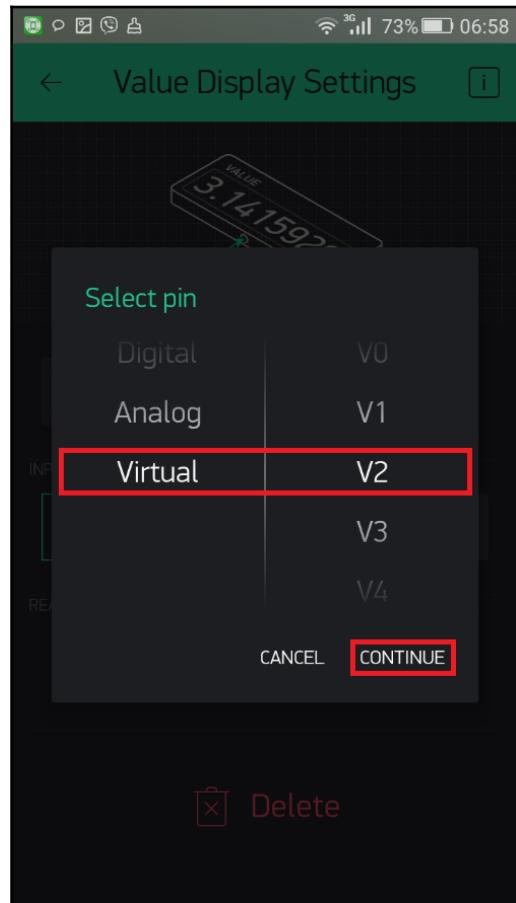

Figure 3.8: Selecting a virtual pin
5. Under INPUT, select the PIN as **Virtual** pin V2. Then, tap **CONTINUE** to apply the changes (*Figure 3.8*):